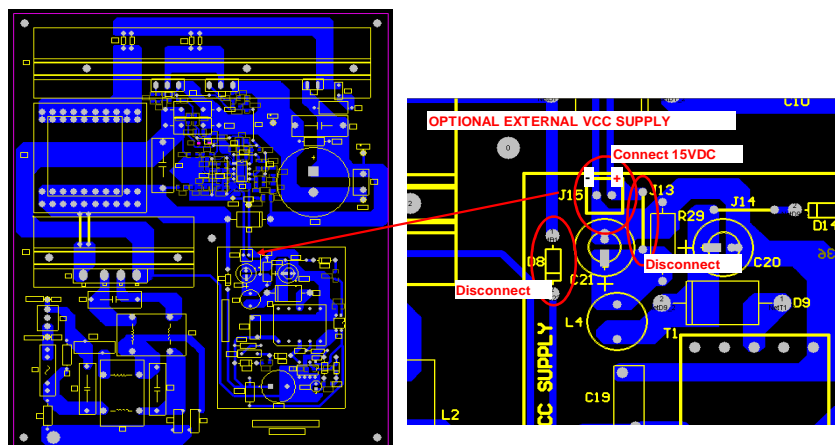

Figure 2: IRAC1152-350W external Vcc connection
- iii. Input connector J15 can be used for providing external DC supply to bias the VCC pin of IR1152; please pay attention to the connector biasing as shown in Figure 2. in the Installation and Operating Instructions section of this document
- iii. Input connector J15 can be used for providing external DC supply to bias the VCC pin of IR1152; Pay attention to the polarity of the terminals in the connector as shown in Figure 2.